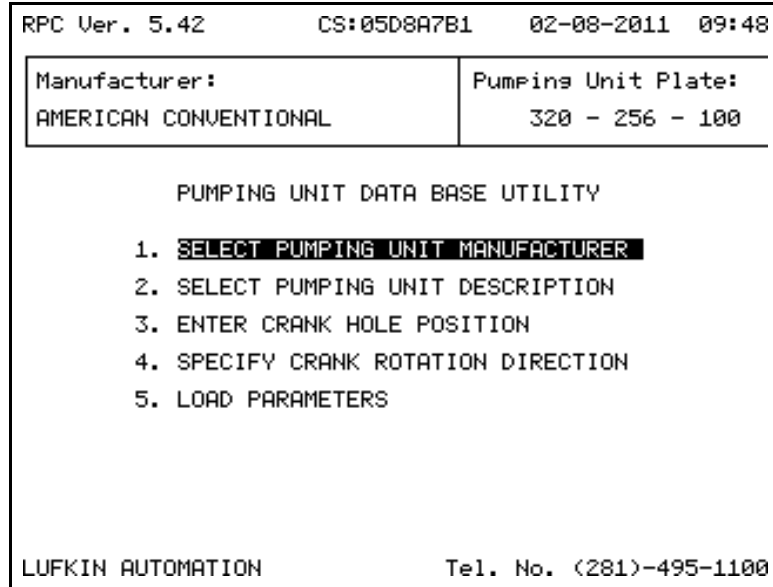

Figure 8-13. Pumping Unit Data Base Utility Menu
- a. Select **1. SEARCH BY DESCRIPTION** to display a Pumping Unit Data Base Utility Menu screen similar to Figure 8-13.
To use the shortcut, press <EXIT> to return to the Pumping Unit Data Base Utility menu (Figure 8-13 on page 8-31), and then select **5. LOAD PARAMETERS**. The Pumping Unit Parameters screen (Figure 8-10 on page 8-27) displays with a popup box briefly notifying you that the database search is completed.